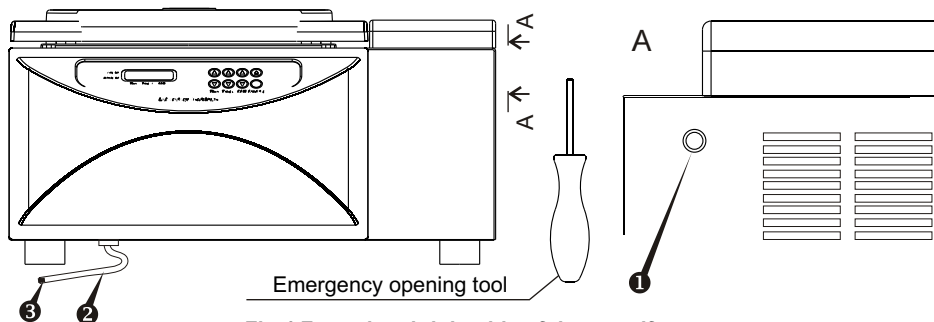

Fig.4 Frontal and right side of the centrifuge
- Rotor R-6 ❶ on request
- Rotor R-12-10 ❷ on request
- Rotor R-12-15 ❸ on request
- Rotor R-2 ❹ on request
- Rotor support stand RR-U ❺ on request
- Adapter sets BN-13-75, BN-13-100 and BN-16-100 for R-12-15 ❻ on request
- make sure that drain hose is plugged (see fig.4/3), to prevent process from the temperature abuse.
Note! While the centrifuge is working drain hose must be plugged (fig.4/ ❸), to prevent process from the temperature abuse.
- Note!** Be sure to cork the drain hose (Fig. 4/ ❷) with a stopper (Fig. 4/ ❸) in order to avoid the chamber temperature conditions rising.
- To access the emergency opening slot on the right side of the unit insert a small tool for emergency unlocking (fig. 4/A, 4/ ❶).
It is necessary to clear away ice and remove condensate from the centrifuge cavity. For easy cleaning, the centrifuge chamber is equipped with a drain hole with tube (fig.4/②). Cleaning the chamber place the tube into an appropriate container and drain the fluid.
Note! Be sure to cork the drain hose (Fig. 4/ ②) with a stopper (Fig. 4/ ③) in order to avoid the chamber temperature conditions rising.